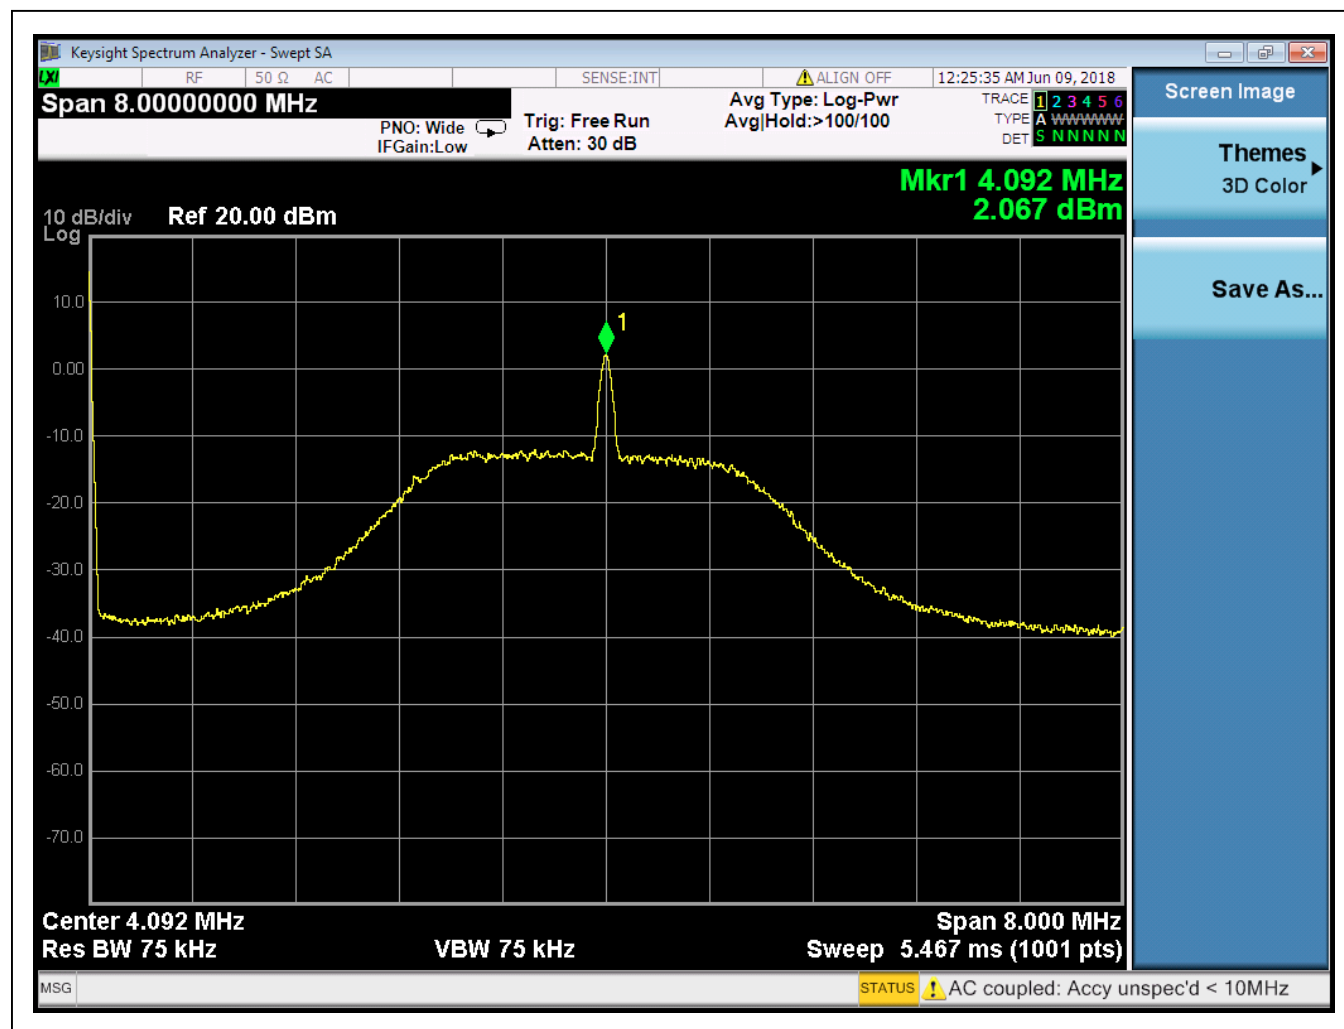

Figure 1. Spectrum of IF Signal within the Filter response (High Band)
- Turn on the RF signal generator output and observe the output in Signal analyzer at 4.092MHz. See Figure 1 below.